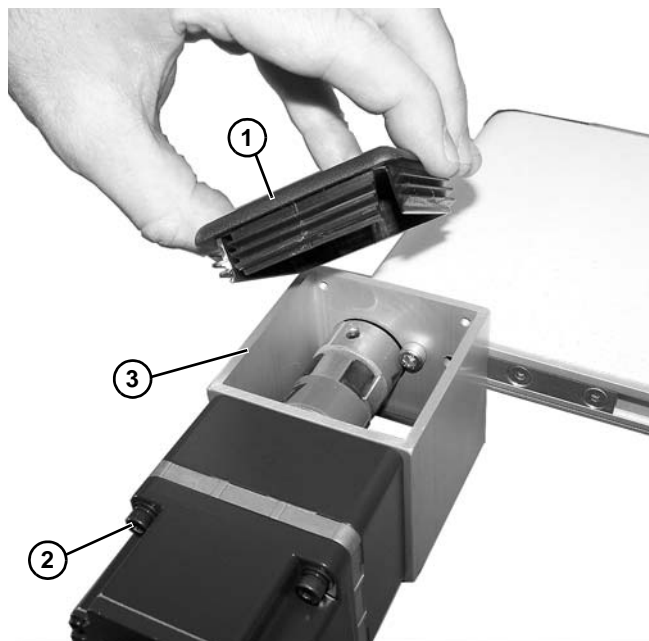

Figure 32
8. Remove top plastic cover (Figure 32, item 1).
9. Remove four (4) screws (Figure 32, item 2) holding gearmotor onto side mount bracket (Figure 32, item 3).